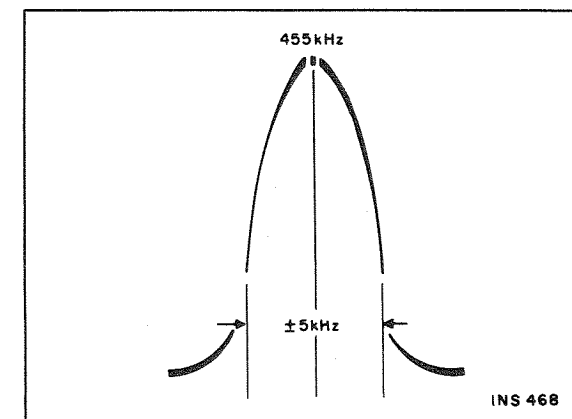

Figure 11.
(1) Connect 455 kHz sweep generator to pin 7A (on AM RF board). Use a 0.1 uF capacitor in series with the generator lead. Connect generator ground to pin 7C.
(2) Connect vertical input of scope to Test Point 302 (pin 3G on AM/FM IF, MPX board). Connect scope ground to pin 3G. Set scope vertical input sensitivity to approximately 200 mV/cm.
(3) Adjust generator level and sweep to observe IF response curve. Set generator output as low as possible.
(4) Adjust top and bottom cores of Z303, Z301 (on AM/FM IF, MPX board), and Z701 (on AM RF board) for maximum gain and symmetry. Repeat alignment until maximum gain and symmetry are obtained (see Figure 11).